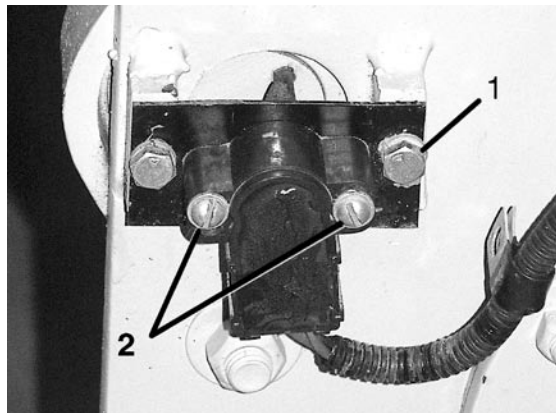

Figure 3
5. Re-calibrate (null/scale) gate calibrations in computer set-up if adjustment made (See figure 3 for proper adjustment procedure).